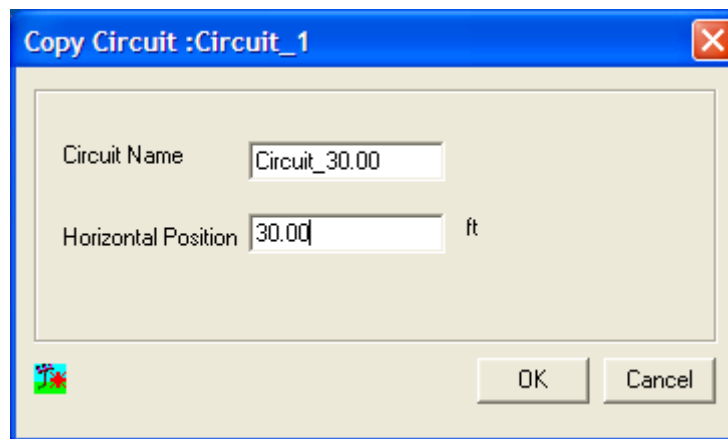

Figure 1-24. Copy Circuit Dialog Box
2. The dialog box illustrated in Figure 1-24 will appear.